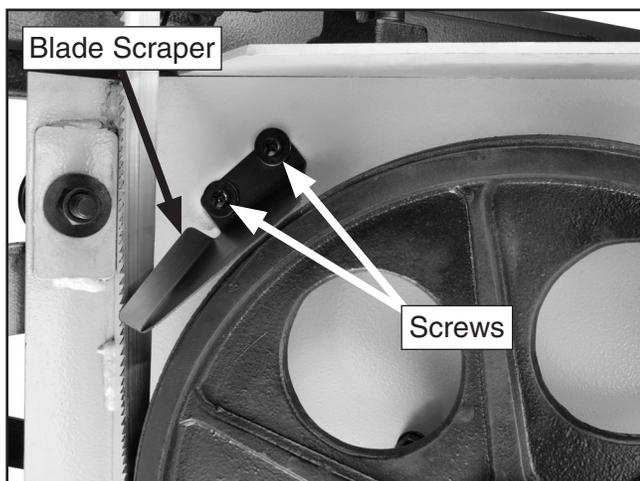

Figure 59. Blade scraper.
3. Loosen the screws that hold the blade scraper in place (**Figure 59**).